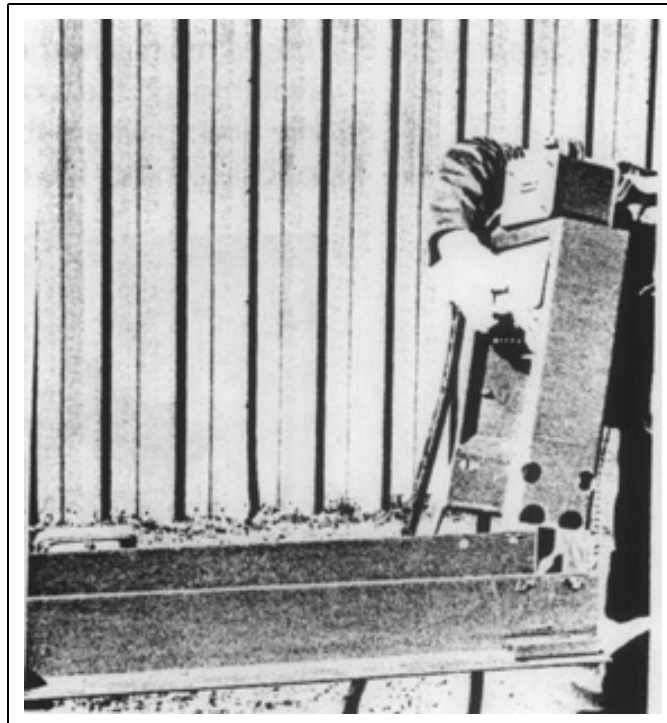
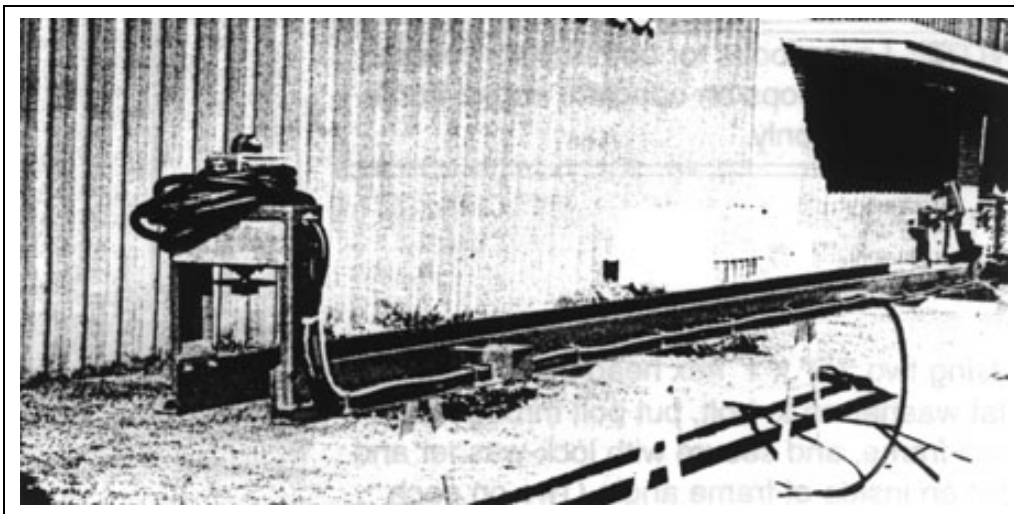

Figure 4D
Figure 4F
9. Place inboard pivot end over main frame as shown in Figure 4D. Be sure inboard pivot is on the same end of the frame as chain idler support brackets. (See Figure 4F on Page 18.) Have the heavy electric cords coming out of the center pivot on the same side as the loops on the main frame. These loops hold the heavy cords in place.
Using two (2) 3/8" x 1" hex head bolts, place flat washer onto bolt, put bolt through yoke and frame and secure with lock washer and nut on inside of frame angle (two (2) on each side). Using two (2) 3/8" x 1" hex head bolts for 4 auger machine (two (2) 3/8" x 2" hex head bolts for 6 auger machine), bring bolts up from the bottom of the main frame through yoke and secure with flat washer, lock washer and nuts (two (2) on each side). (See Figure 4D or Page 54.)
11. Thread main power cord and gear motor power cord (14-3) from the inboard pivot through the loops on the side of the main frame, with the main power cord only ending where the large loops stop. The gear motor cord continues to the opposite end of the main frame as shown in Figure 4F.